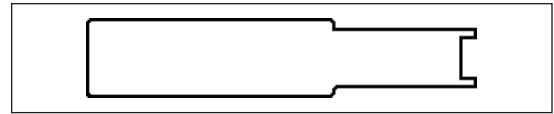

Figure 8. Tool T-2402X-1
c. Insert tool T-2402X-1 (Figure 8) into the propeller through the threaded nose. The tabs in the tool should engage in the screwdriver slot in the end of the reverse thrust bearing cartridge (#46).